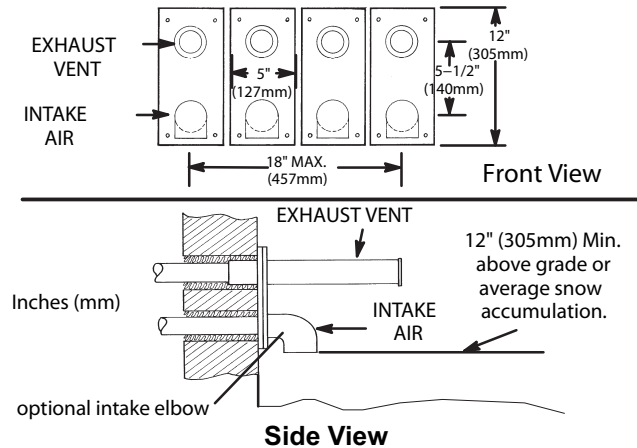

Figure 31
8. Based on the recommendation of the manufacturer, a multiple furnace installation may use a group of up to four terminations assembled together horizontally, as shown in Figure 31